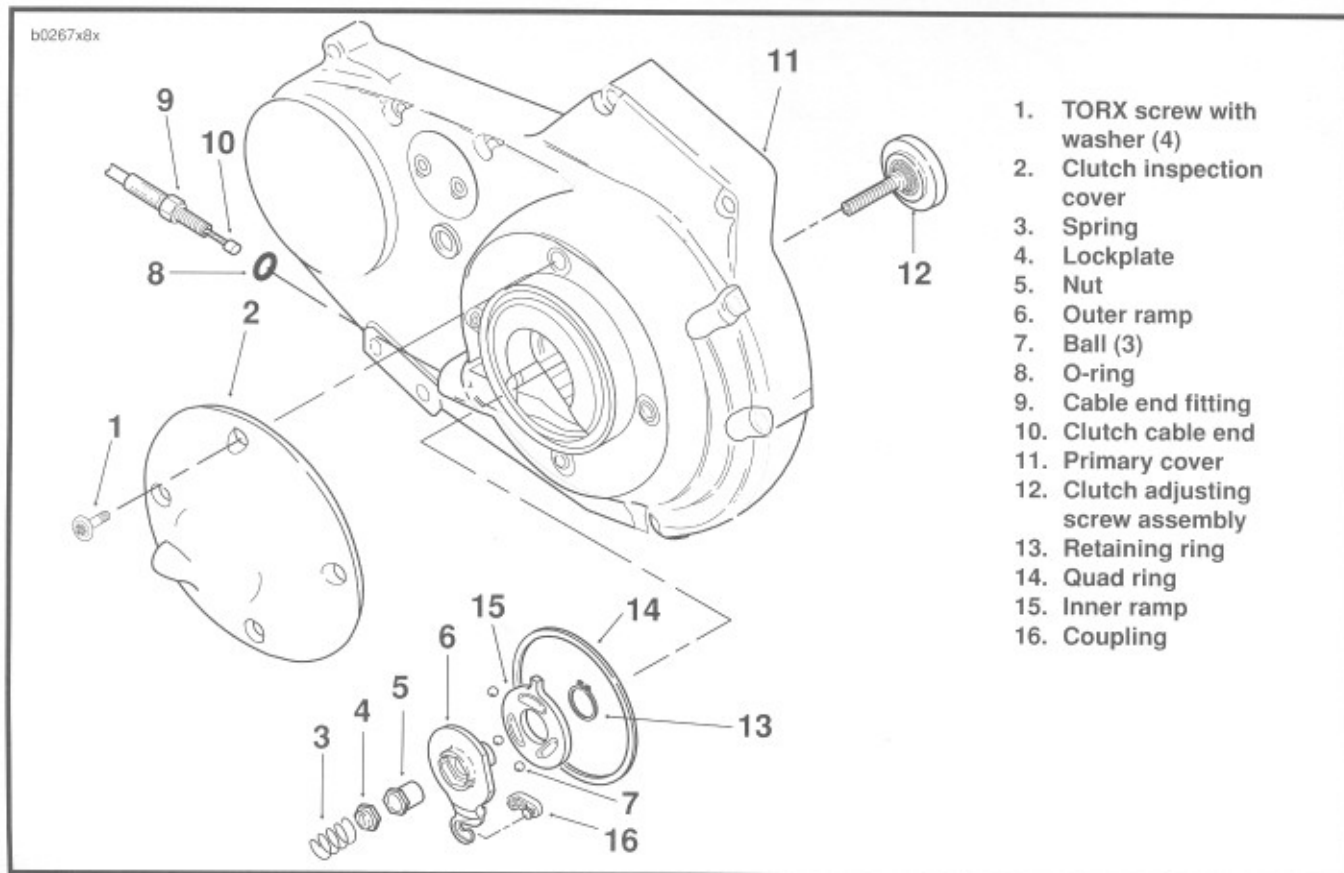

Figure 2-85. Clutch Release Mechanism
Clutch Cable – Lower (Figure 2-85)
1. See Figure 2-85. Install O-ring (8) over cable end fitting (9) of clutch cable lower section. Turn fitting clockwise to install into primary cover (11). Tighten fitting to 3-5 ft-lbs (4-7 Nm) torque.
2. Fit coupling (16) over cable end with the rounded side inboard, the ramp connector button outboard. With retaining ring side of ramp assembly facing inward, place hook of ramp around coupling button and rotate assembly counter-clockwise until tang on inner ramp (15) fits in slot of primary cover (11).
3. Thread nut (5) on adjusting screw (12) until slot of screw is accessible with a screwdriver. Fit nut hex into recess of outer ramp (6) and turn adjusting screw counter-clockwise.